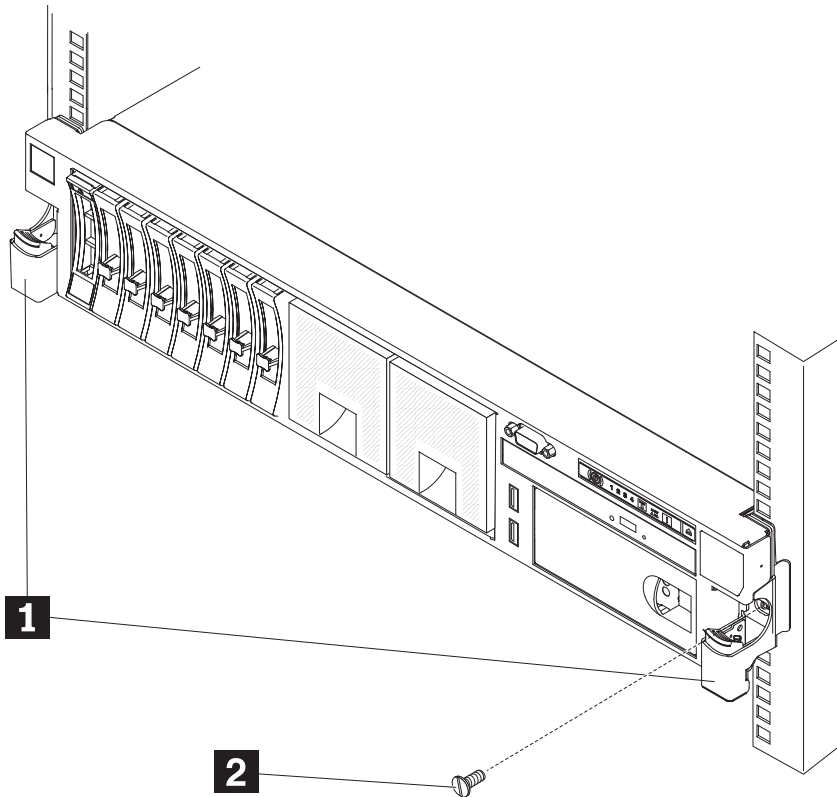

Figure 7. Sliding the node out of the rack and removing the front screws
2. Optional: Remove the front screws and slide the node out of the rack, as shown in Figure 7.